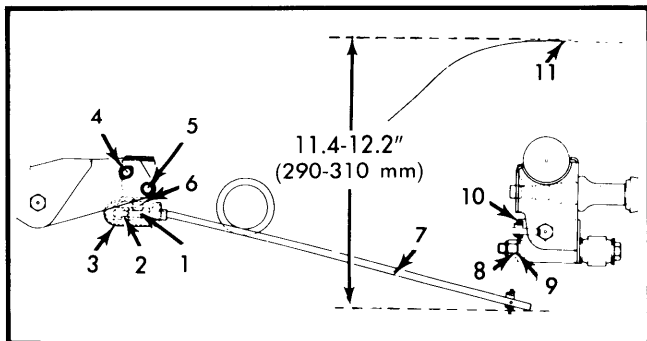

Fig. 1 Brake Pressure Regulator Measurement and Adjustment Points for Brava Models
Brava — Install regulator and leave mounting bolts loose. Bring torsion bar (7) to dimension shown in Fig. 1 from base of buffer end (11). Remove rubber boot (3) from regulator, then rotate regulator until piston (6) is just touching torsion bar (1). Tighten mounting bolts.